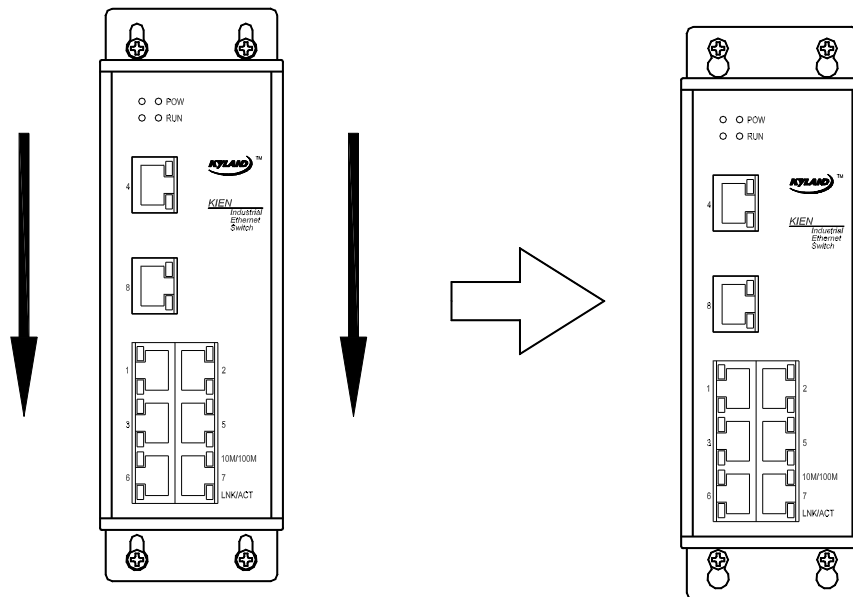

Figure 4-5 Wall Mounting Method
- 4 . After screws are fixed on the wall, mount the switch on the selected position and make 4 screws pass through  $4\Phi 6.5$  holes on the wall hanging plate. Slide down the switch, as showed in the Figure 4-5. Screw down 4 screws to fasten the switch on the wall or the internal wall of the switch cabinet.